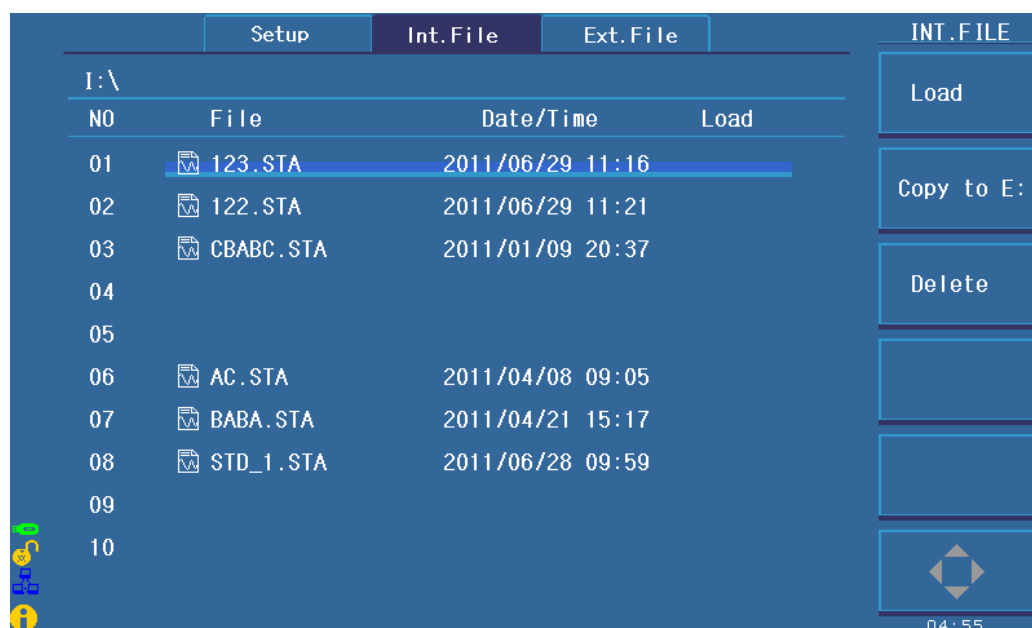

Figure 5-2 Internal File
ST2883 series can save parameters that are set by user to the internal non-volatile memory in file format. User can load the file to use these parameters instead of resetting. The internal memory can store 100 groups of files including files of measure parameters, compare parameters, etc. Figure 5-2 shows the page of internal file.
- ✧ **Load** Press this key to load a file stored in the internal non-volatile memory. As figure 5-2 indicates, using the arrow key or the roller can select the needed file. Press **LOAD** to load the file. If the selected file is needed to load, press **YES**; otherwise, press **NO**.